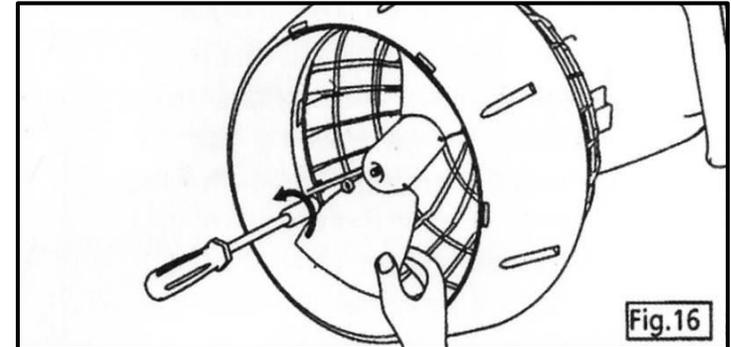

Fig.16
5. While holding the Propeller, use a M6 socket to remove the nut from the Propeller Shaft – see Figure 16.